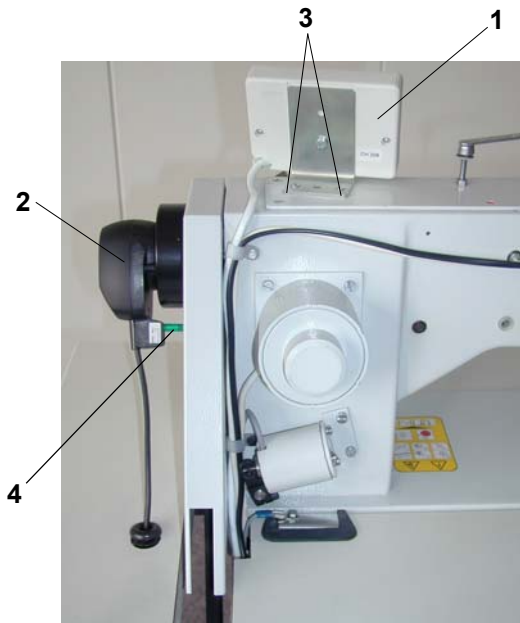

Fig. 7
6. Mounting of a position reader and of a control panel of the stop motor (Fig. 7, 8)